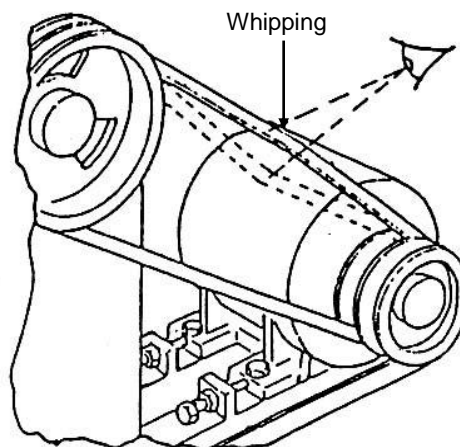

FIG 25.
- Whipping of *one or more V-belts* on a multi-belt drive (Fig 25) normally occurs when the V-belts are not properly matched, or one or two of the grooves are worn.